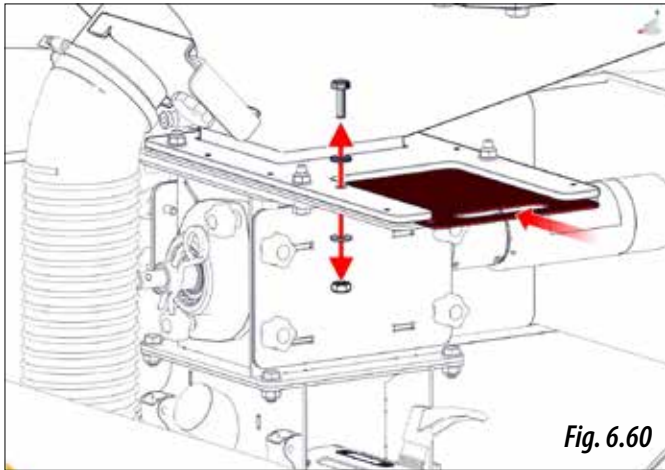

Fig. 6.60
- 2- Close the dispensers' guillotine door by removing the bolt that blocks the door's position (Fig. 6.60).